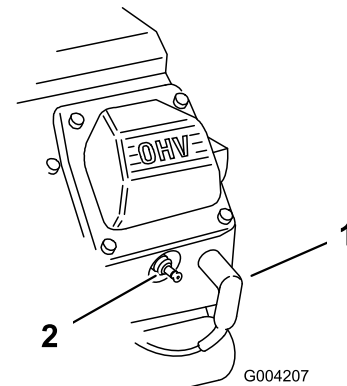

Figure 40
3. Pull the wires off the spark plugs (Figure 40).
3. Push the wires onto the spark plugs (Figure 40).